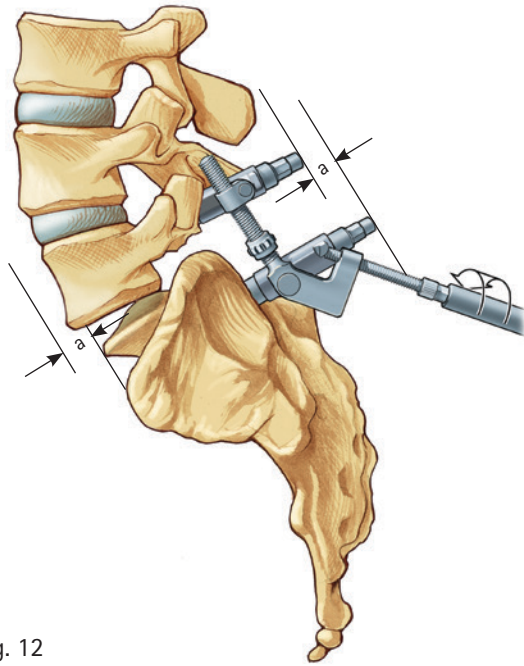

Fig. 12
- Using the large outer t-handle (FW231R) on the reduction bolt, turn clockwise to carefully reduce the spondylolisthesis under C-arm control (Fig. 12).
Tips & Tricks: Screw depth should be adjusted to achieve a distance at least equal to the translation of the slip (Fig. 12 Distance a)